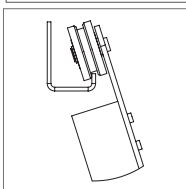

Figure 5
11. Carefully, and at a slight angle, lift the door slightly over the track and then down onto it (Figure 5).